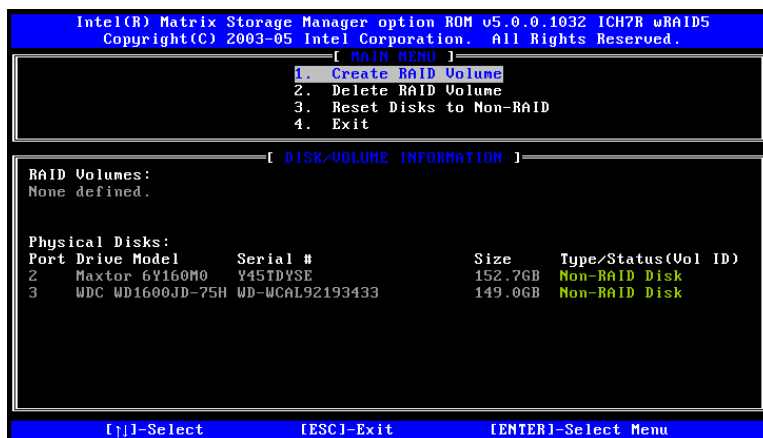

Figure F-1: Matrix Storage Manager Main Menu
Step 1: Select “Create RAID Volume”. Use the arrow keys to highlight Create RAID Volume and press ENTER. See Figure F-1.